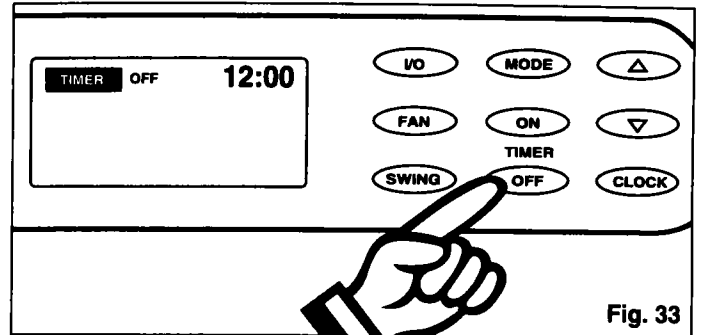
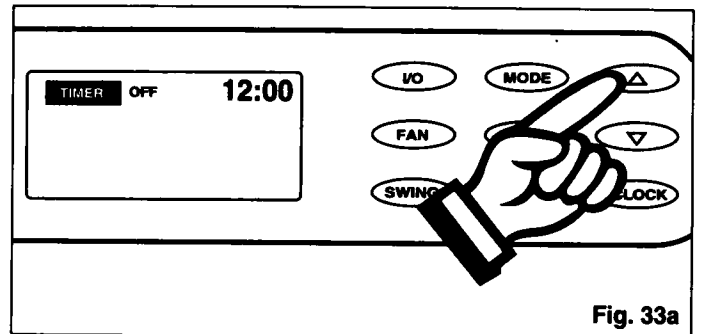

Fig. 33
Fig. 33a
- 2) Press the **TIMER-OFF** key pad to initiate the **AUTO-OFF** time sequence. Fig. 33. The display window will indicate **TIMER-OFF** and the word **OFF** will flash for 5 seconds. Press the Δ or ∇ key pad to select the desired **AUTO-OFF** time. Fig. 33a.
- 2) Press the **AUTO-OFF** key pad to initiate the **AUTO-OFF** time sequence. (Fig. 33). The display window will indicate **TIMER-OFF** and the word **OFF** will flash for 5 seconds. Press the \triangle or ∇ key pad to select the desired **AUTO-OFF** time. (Fig. 32a).